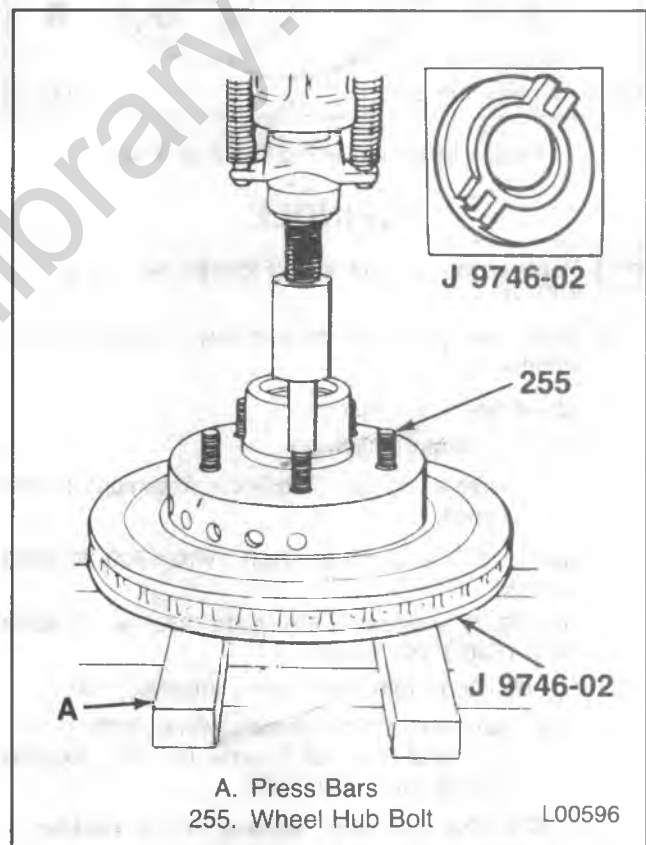

Figure 55 — Removing the Hub Bolts
Remove or Disconnect (Figure 55)
2. Wheel hub bolts (255) with a press.
- Support the hub/rotor using J 9746-02 to prevent damage to the rotor face (figure 55).